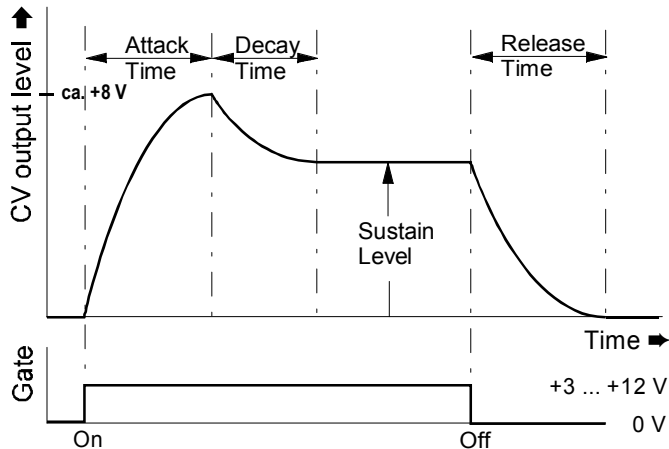

Fig. 1: ADSR envelope and its parameters
The shape of the envelope is governed by four parameters: **Attack**, **Decay**, **Sustain** and **Release** (see Fig. 1 on page 3). On the A-141, these parameters can be controlled **by hand**, or by **voltage control**, via the dedicated CV inputs (each with an attenuator).
- ① **CV A** : Attack voltage control input
- ② **CV D** : Decay voltage control input
- ③ **CV S** : Sustain voltage control input
- ④ **CV R** : Release voltage control input
- ⑤ **Gate**: Gate signal input
- ⑥ **Retrig.:** Retrigger signal input
- ⑦ **Output:** Envelope voltage output
As soon as a **gate signal** is sensed at the VCADSR gate input ⑤, the VCADSR puts out a varying voltage, changing in time, known as an **envelope**. See Fig. 1.
⑦ Output
Output socket ⑦ is where the envelope determined by the A, D, S, and R parameters is available, every time the VCADSR is triggered (see Fig. 1).